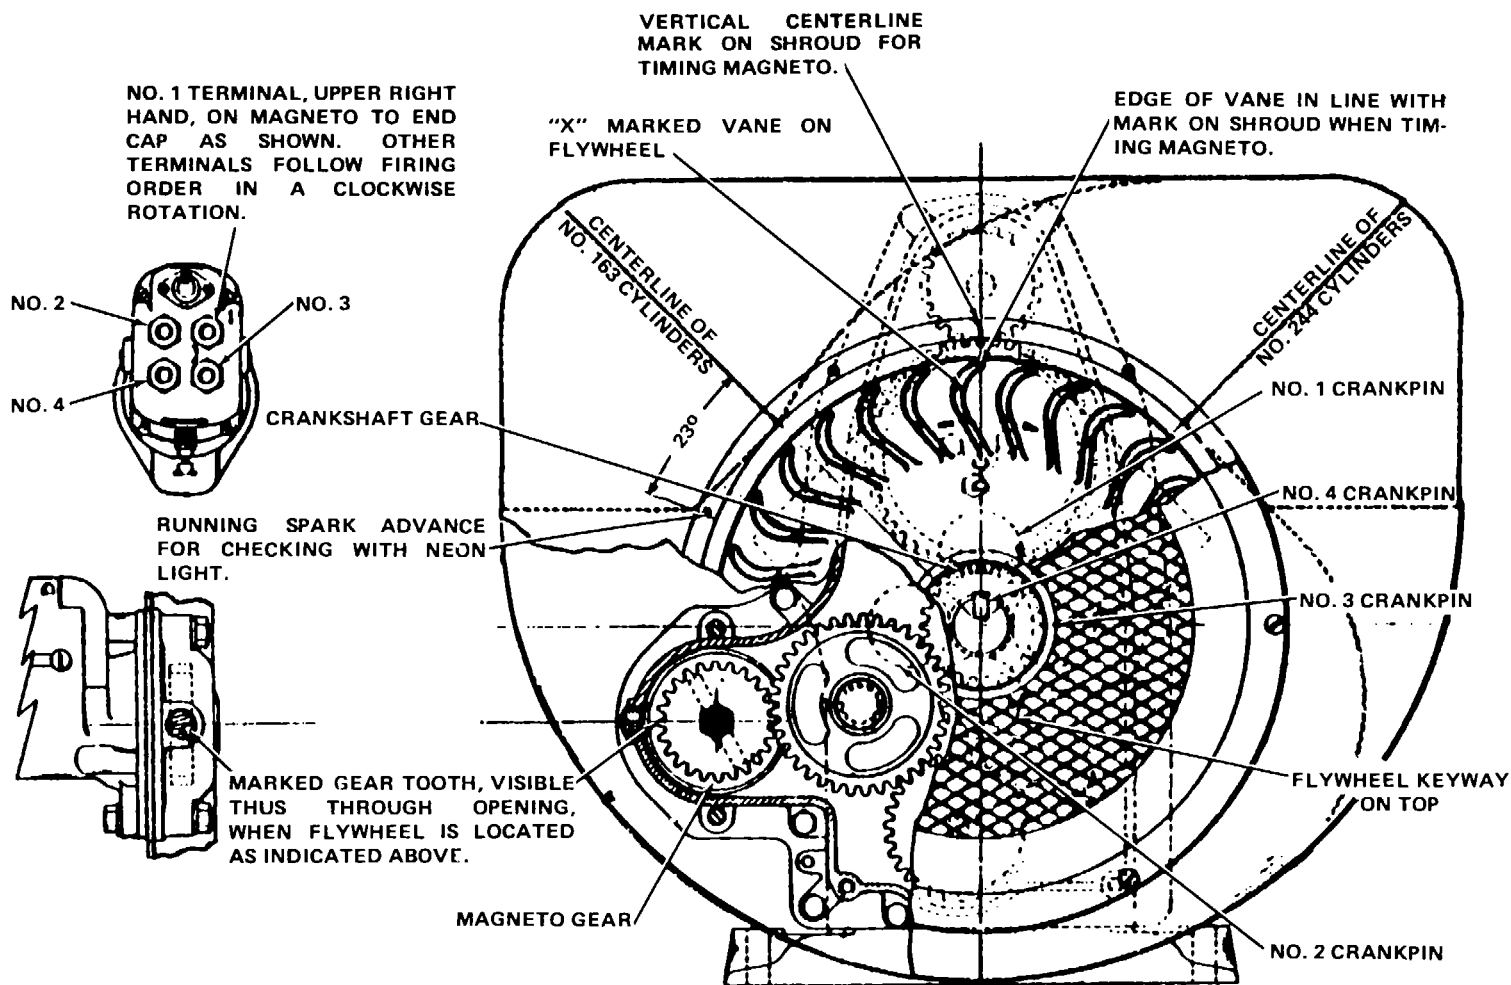

Figure 4-5. Magneto Timing
- (1) Disconnect four spark plug wires.
- (2) Disconnect ground strap.
- (3) Disconnect main wire harness at one place.
- (4) Remove nut.
- (5) Remove bolt and lock washers and nut.
- (6) Remove magneto.
- d. Installation. Refer to Fig. 4-5 for angle relationships for magneto timing.
- (1) Remove # 1 spark plug.
- (2) Rotate engine while holding finger over # 1 spark plug hole.
- (3) Locate the letters "DC" near one of the blower vanes on the flywheel.
- (4) Slowly turn engine until air blows out of # 1 spark plug hole.